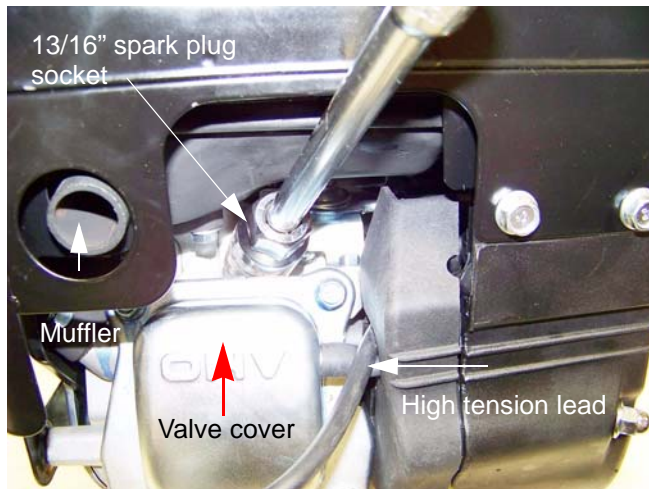

Figure 7.17
2. Remove the spark plug using a 13/16" or 21mm wrench. A flexible coupling or "wobbly" extension may help. See Figure 7.17.